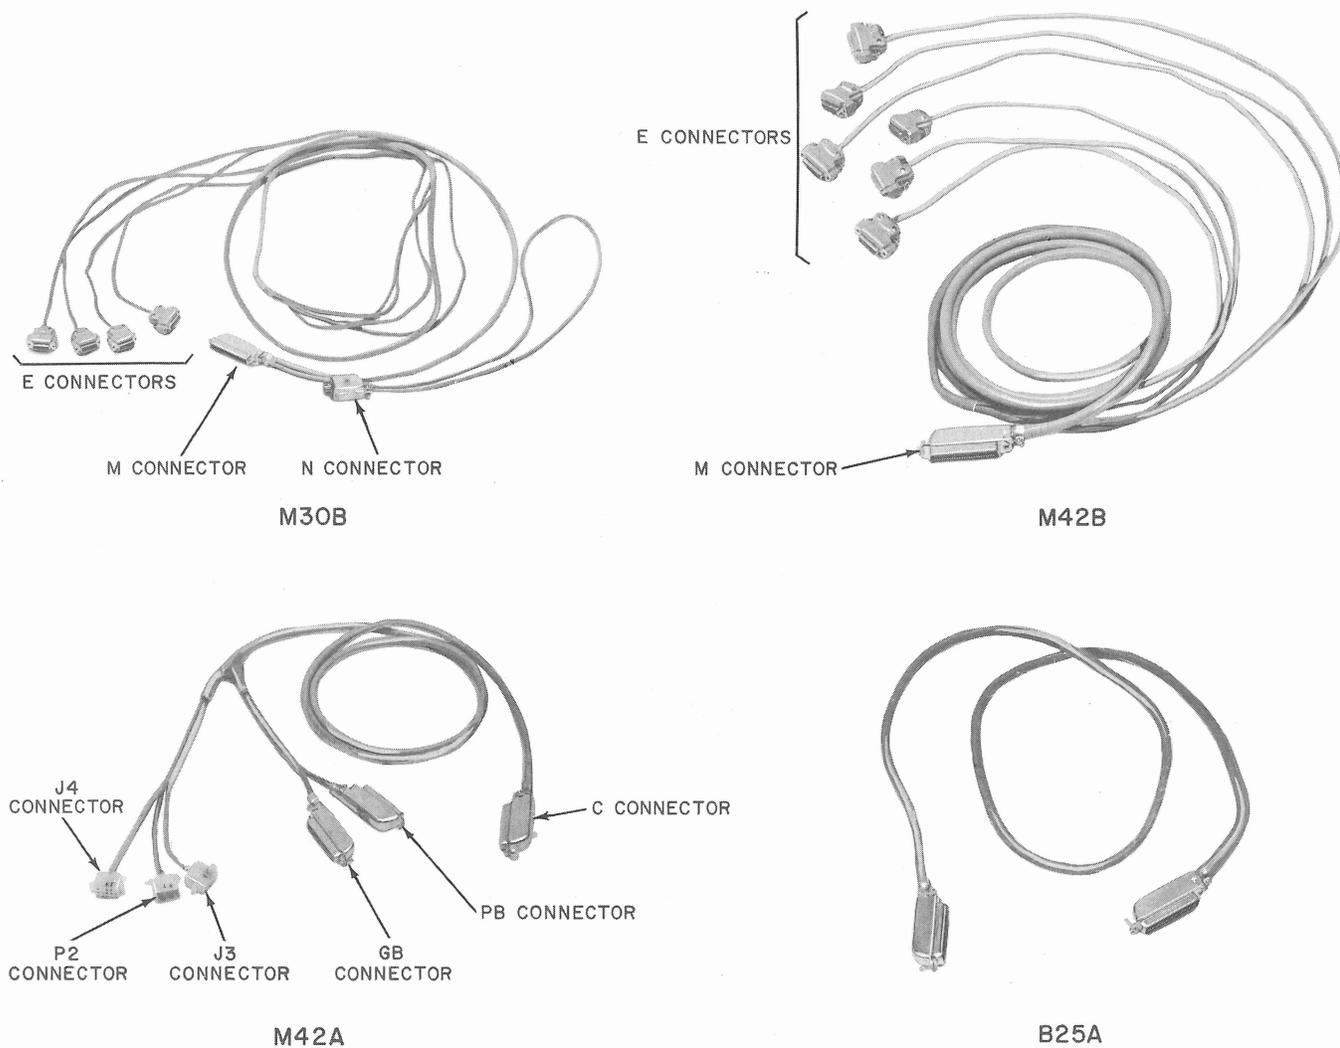
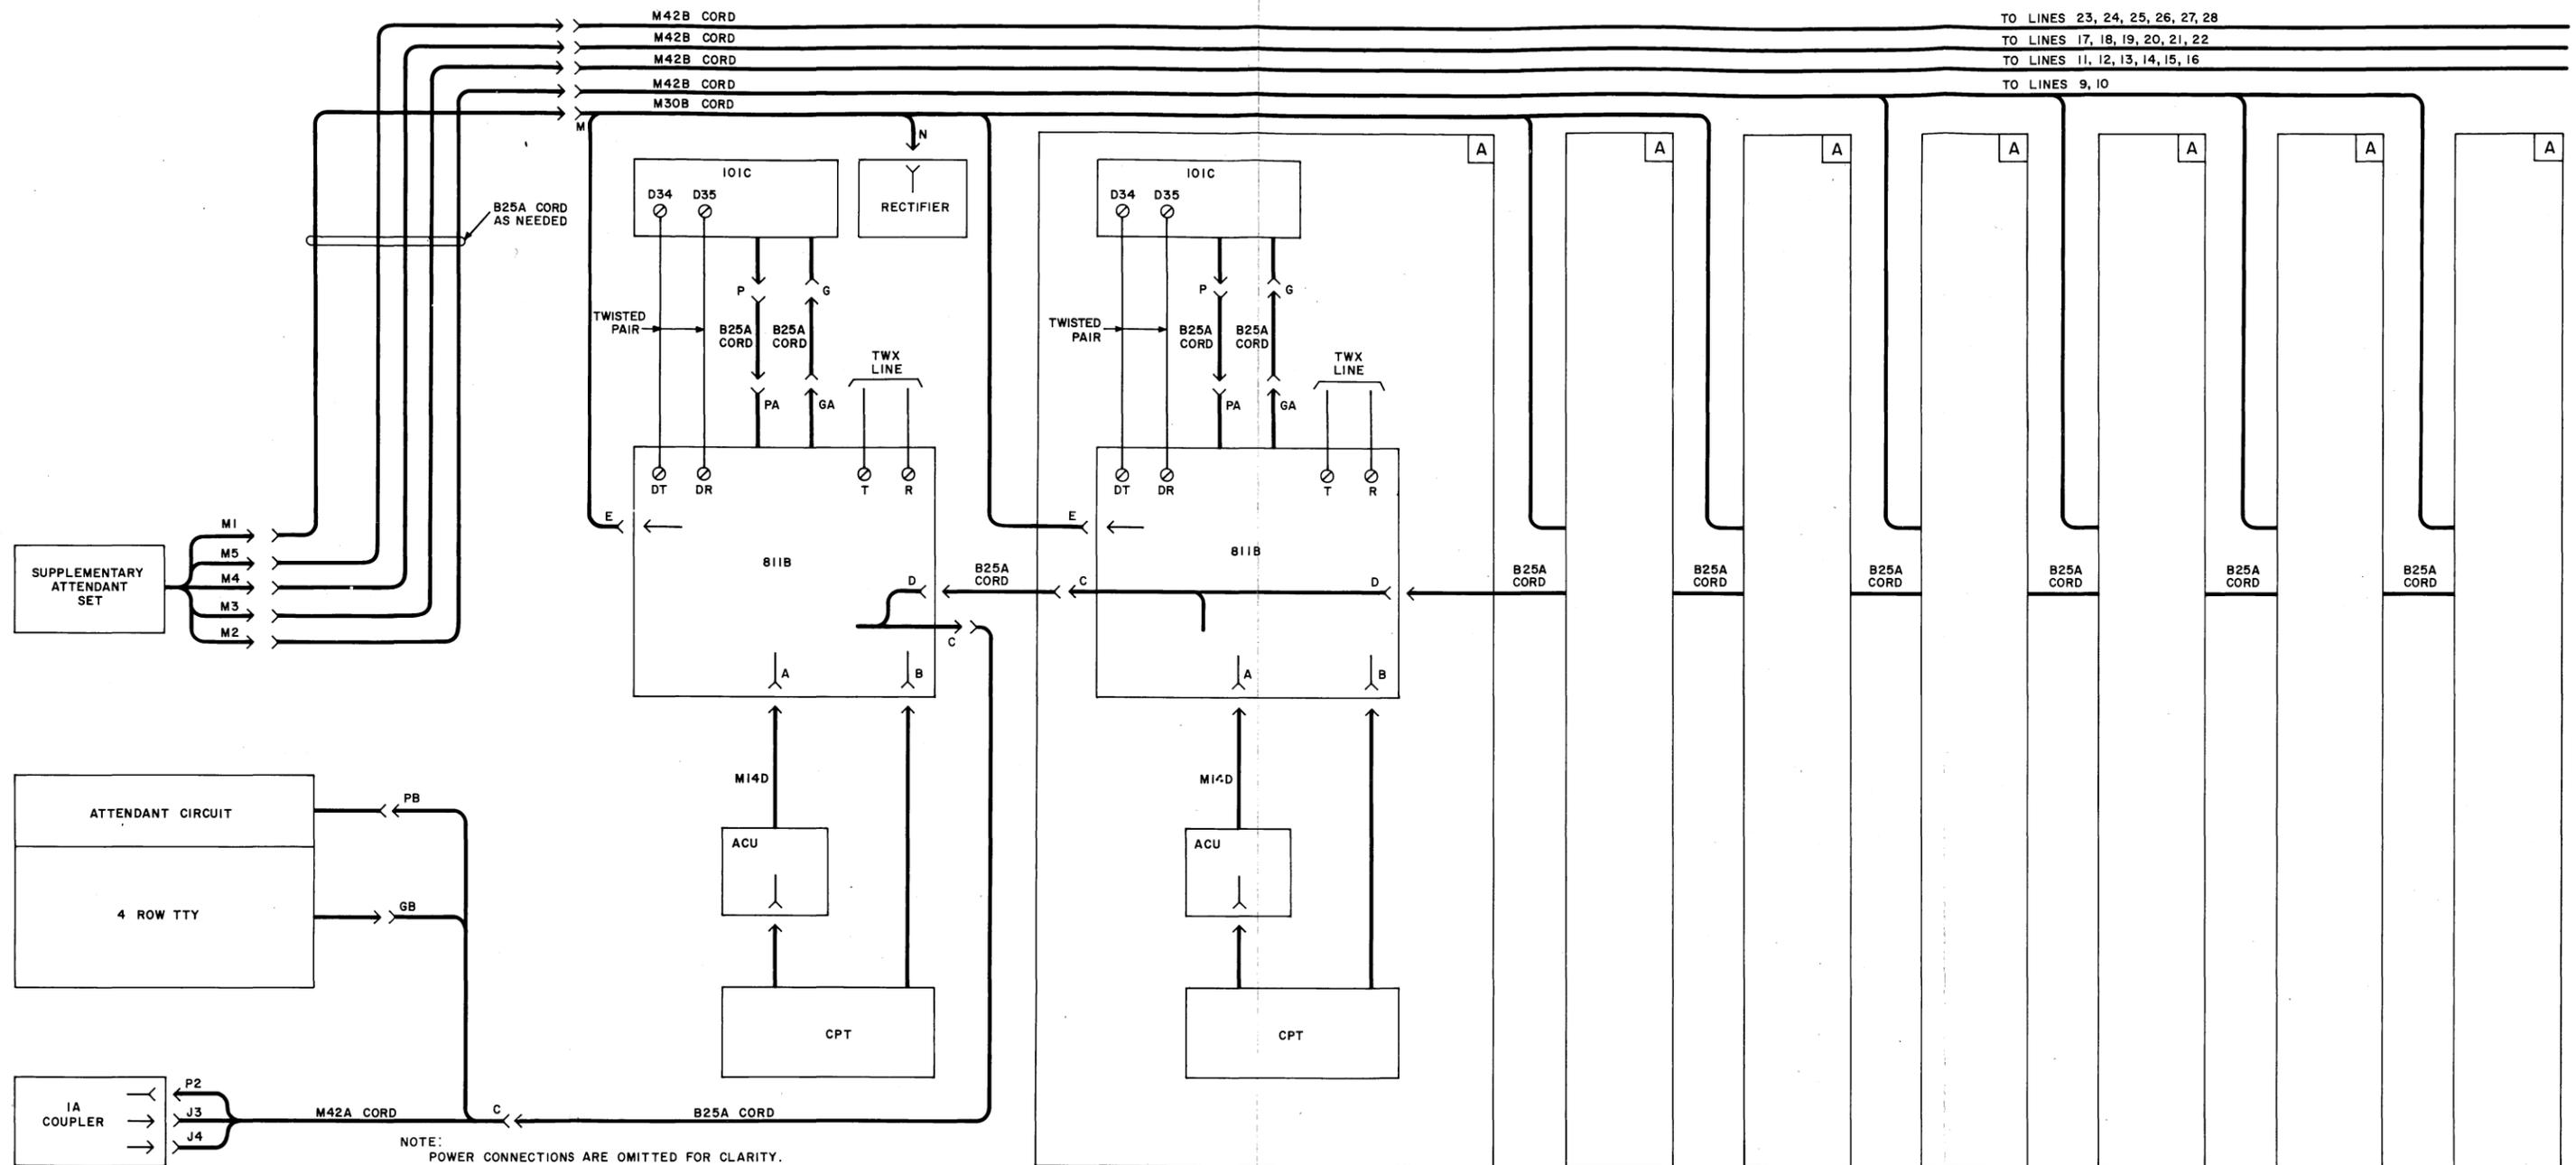

Fig. 5—Connecting Cables
Fig. 7—Block Diagram of a General Station Arrangement—CPTs Connected for 4-Row Multiple Line TWX Service
**2.08** The cords required to hook up a 3-row station are shown by Fig. 5 which also gives the connector designations. The number of cords required to install a station depends on the number of lines that are provided for the station. The B25A cables will be used as required to hook up the station. Fig. 6 gives a block diagram of a typical 3-row multiple line station showing the proper connections of the station units and the required connecting cords.
**2.11** The cords required to hook up a 4-row station are shown by Fig. 5 which also gives connector designations. The number of cords required to install a station depends on the number of lines that are provided for the station. Fig. 7 gives a block diagram of a typical 4-row multiple line station showing the proper connections of the station units and the required connecting cords. The B25A cables will be used as required to hook up the station components.